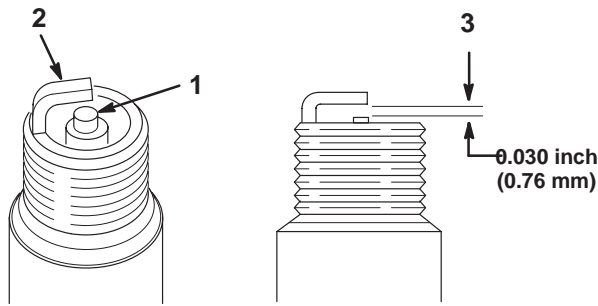

Figure 43
1. Clean the electrodes by scraping or with a wire brush to remove carbon deposits and wetness (Fig. 43).
2. Inspect the spark plug (Fig. 43).
3. Check the gap between the center and side electrodes (Fig. 43). Bend the side electrode (Fig. 43) if the gap is not correct.